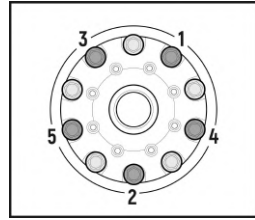

Fig. 20
- Remove the **five** previously installed bolts. Apply threadlocker to the threaded holes and to the bolt threads, then install and tighten them with a torque wrench to the torque specified in the vehicle service and repair manual. (**Fig. 20**)